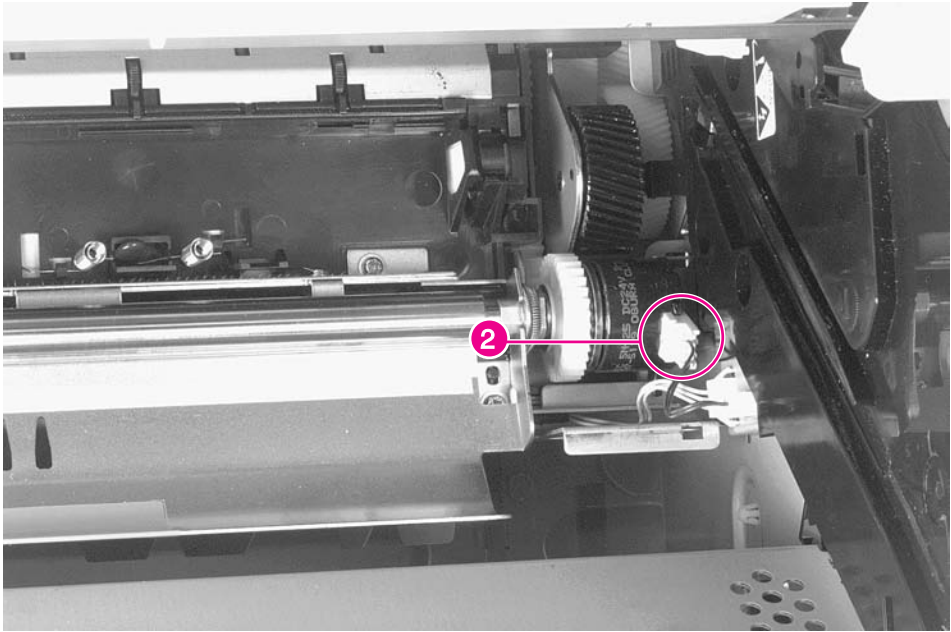

Figure 6-54 Registration Assembly (2 of 3)
- 5 Unplug the clutch cable from the clutch on the right end of the Registration Assembly (figure 6-54, callout 2).
- Registration Assembly (see figure 6-54 on page 272)